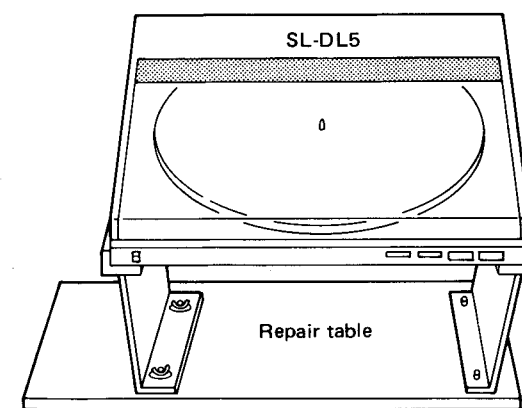

Fig. 17
2. Place the unit on the player repair table. (Fig. 17)